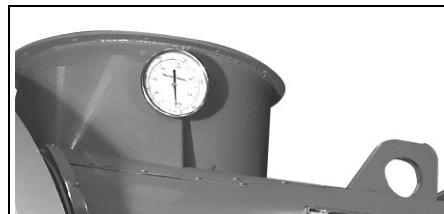

Figure 2-6 Stack Thermometer
2. Forced Draft Fan (Figure 2-6): Provides all air, under pressure, for combustion of pilot fuel and main fuel, and for purging.
3. Modulating Motor (Figure 2-6): Operates the rotary air damper and fuel metering valves through a cam and linkage system to provide proper air/fuel ratios under all boiler load conditions.
- 15.Stack Thermometer (Figure 2-6): Indicates temperature of vented flue gases.